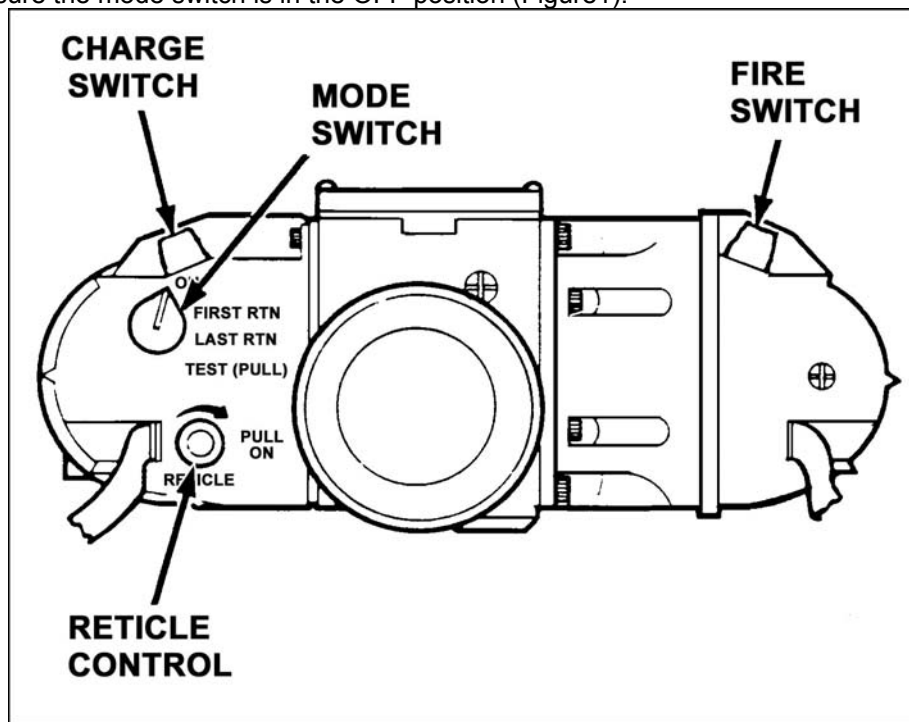

Figure 1. MELIOS controls and indicators.
- c. Ensure the mode switch is in the OFF position (Figure1).
- d. Turn mode switch to FIRST RTN (Figure 1). Go to step f if target is clearly visible.
- (1) Turn mode switch to LAST RTN.
- (2) Look through eyepiece and place reticle aiming circle on target.
- (3) Press and release charge switch.